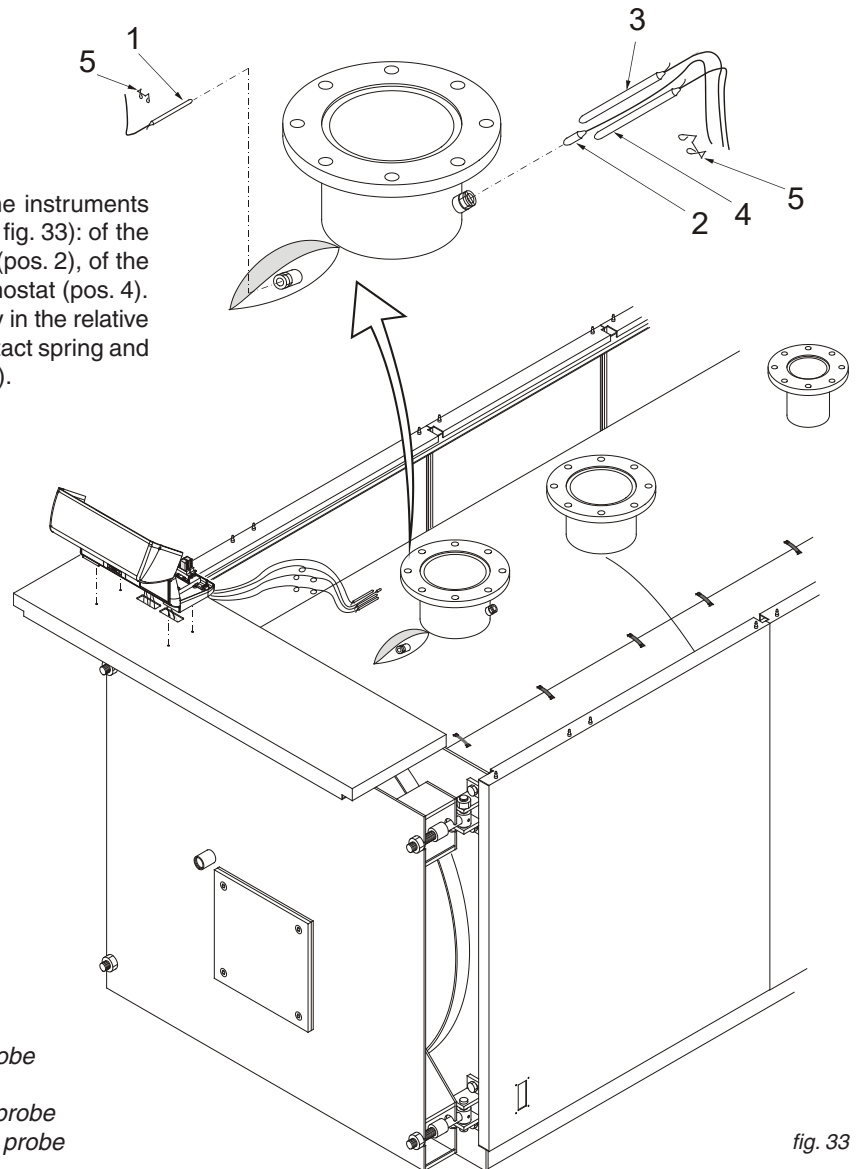

fig. 33
- F) Insert the bulbs of the instruments into the conduits as indicated in fig. 33 and wire the panel board to the power line, to the burner and to any pumps, etc.
Following this sequence, insert the probes of the instruments in the bulb holder/s on the top of the boiler (Ref. fig. 33): of the thermometer (pos. 1), of the working thermostat (pos. 2), of the safety thermostat (pos. 3), of the minimum thermostat (pos. 4). It is recommended to insert the probes all the way in the relative bulb holders for best contact. Then insert the contact spring and fasten the capillaries with the fixing clip/s (pos. 5).